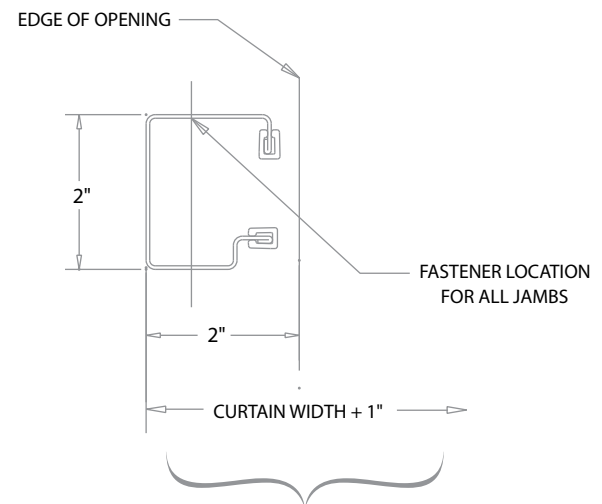

FIGURE 7
- The guides should be mounted centered about the opening and spaced curtain width + 1" apart measured from back of guide to back of guide. *See figure 7.* Both guides must be plumb.